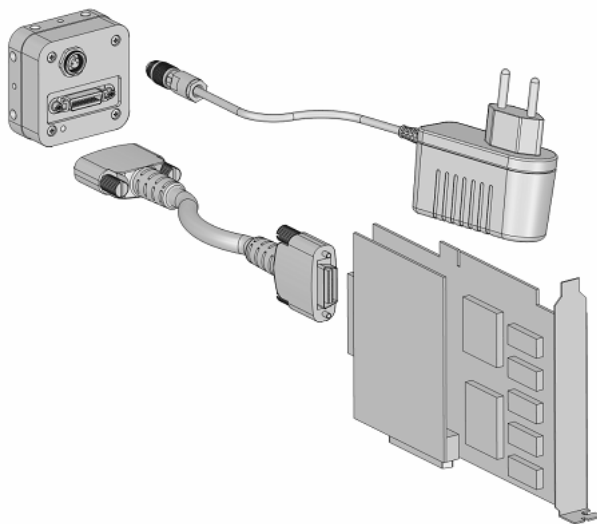

Figure 2.2: Camera with frame grabber, power supply and cable.
7. Connect the camera to the frame grabber with a suitable CameraLink[®] cable (see Fig. 2.2). CameraLink[®] cables can be purchased from Photonfocus directly (www.photonfocus.com). Please note that Photonfocus provides appropriate solutions for your advanced vision applications.
9. Connect the power supply to the camera (see Fig. 2.2).